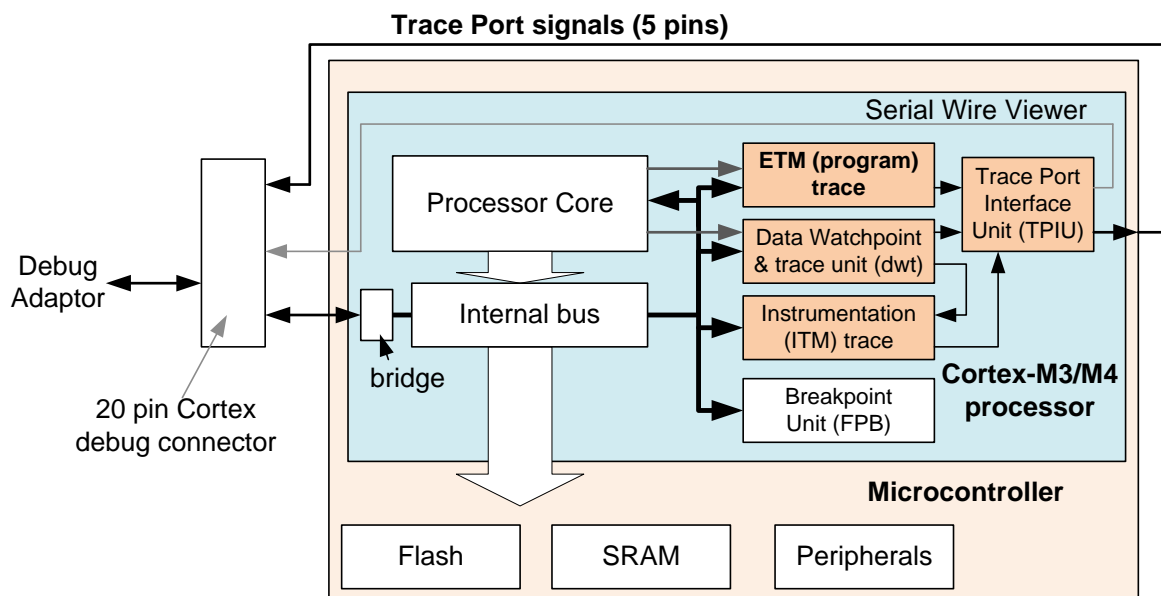

Figure 10: Trace port provides required trace bandwidth for instruction trace plus other trace
- Trace port – multiple data pin plus clock signal. This provides much higher trace bandwidth than SWV and can support all trace type in SWV plus instruction trace. On Cortex-M3/M4 or Cortex-M7 devices, the trace port usually has four data pins and one clock pin. (Figure 10)